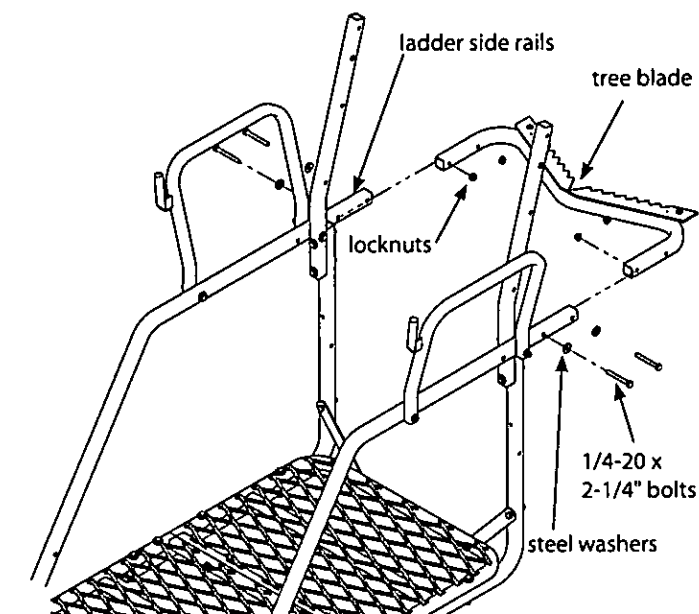

Figure 4
Attach the tree blade (410056) to the ladder side rails using (4) provided 1/4-20 x 2-1/4" bolts, locknuts and steel washers. **SEE FIGURE 4.**